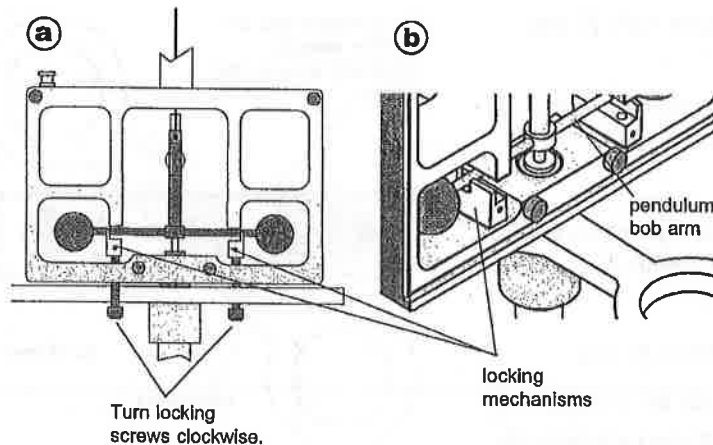

Figure 4
1. Release the pendulum from the locking mechanism by unscrewing the locking screws on the case, lowering the locking mechanisms to their lowest positions (Figure 4).